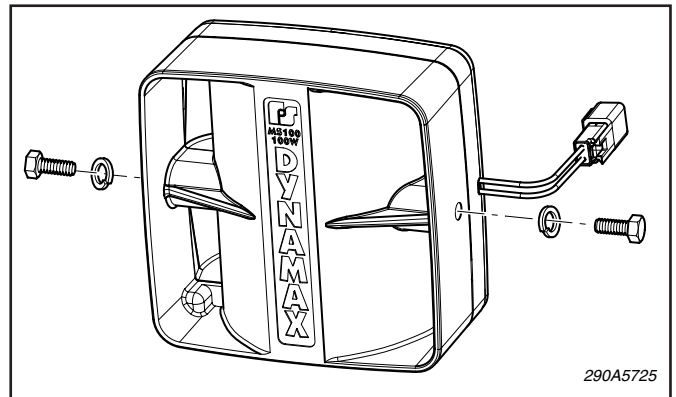

Figure 1.
3. See figure 1. After the speaker mounting and the mating component assembly is completed, connect the deutsch connector from the speaker to the electronic siren's speaker mating deutsch connector. The numbering scheme should line up accordingly where the second position of the female deutsch connector should line up with the second position of the male deutsch connector.